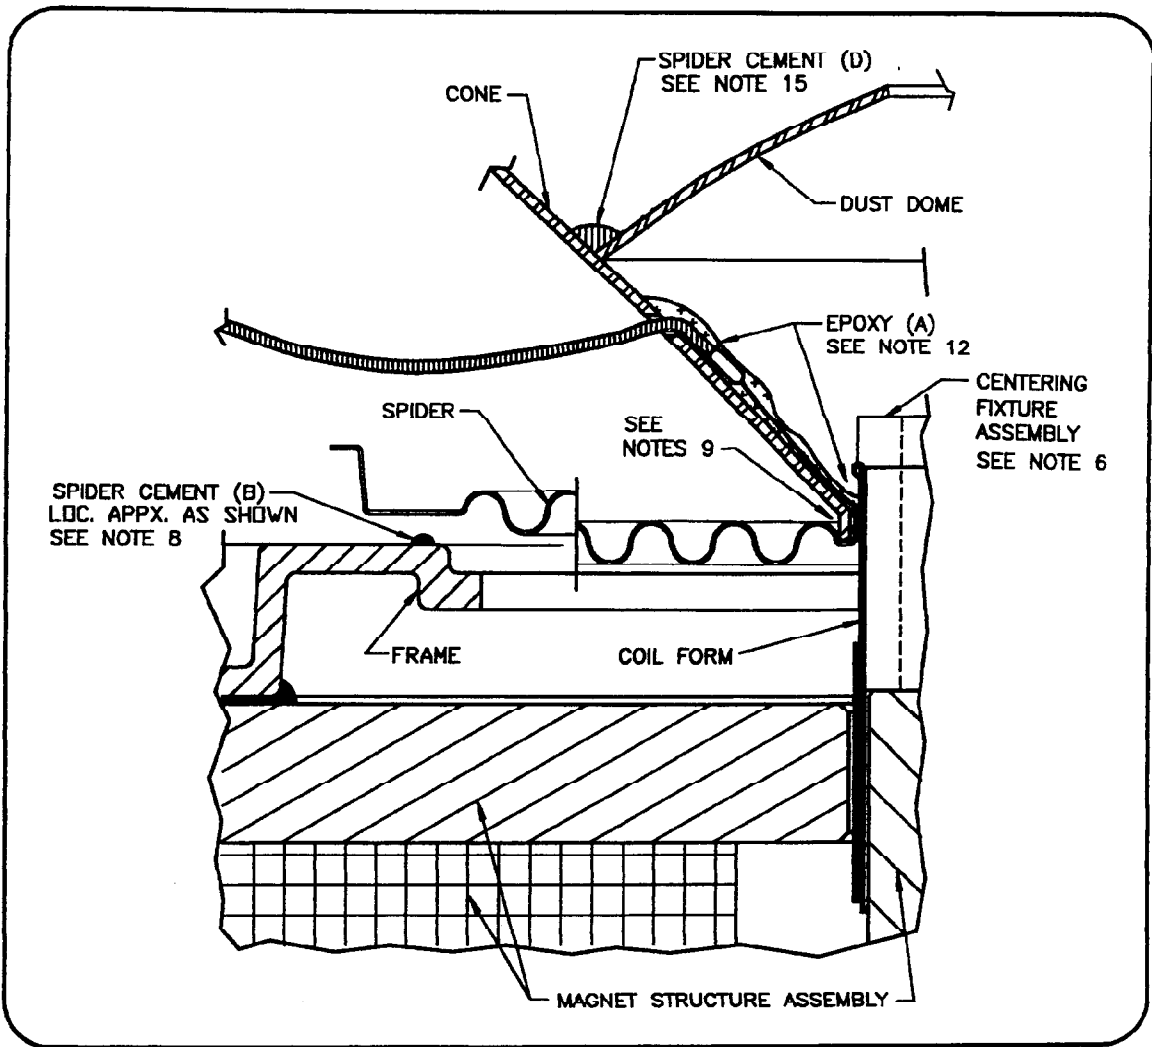
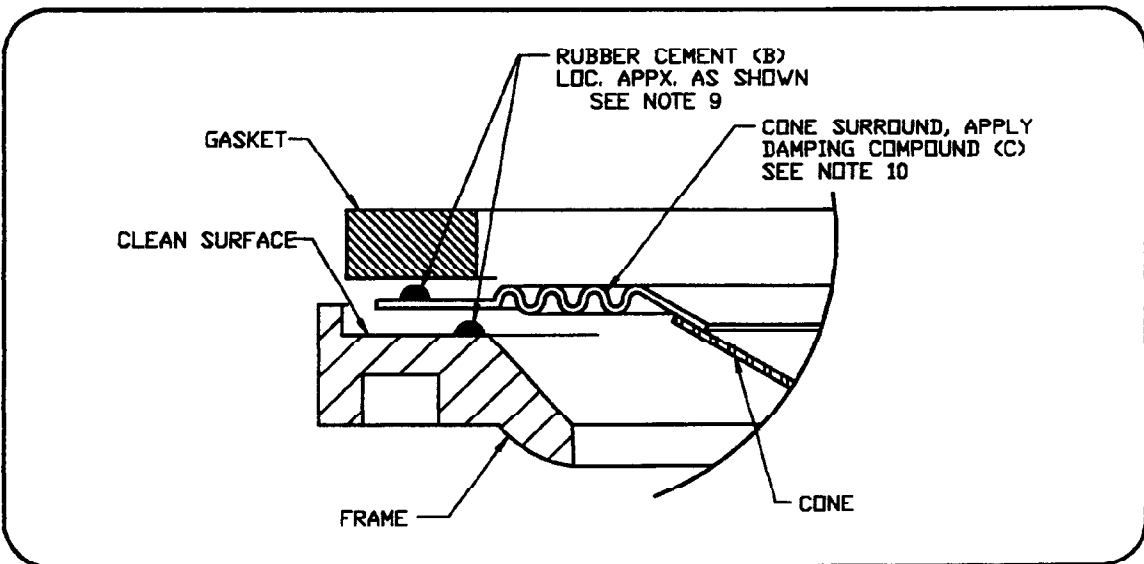

FIGURE 2
FIGURE 3
8. PLACE A GENEROUS BEAD OF SPIDER CEMENT (B) ALONG THE INNER EDGE OF THE SPEAKER FRAME (SEE FIGURE 2). PROPERLY SEAT THE SPIDER.
9. PLACE A GENEROUS BEAD OF CEMENT (B) ALONG THE INNER EDGE OF THE FRAME BASKET AS SHOWN IN FIGURE 3. POSITION THE SPEAKER CONE BY FIRST ALIGNING THE LEAD WIRE HOLES WITH THE SPEAKER TERMINALS AND THEN SLIP THE CONE OVER THE COIL/CENTERING FIXTURE ASSEMBLY AND LET THE INSIDE LIP OF THE CONE REST ON THE SPIDER AS SHOWN IN FIGURE 2. PROPERLY SEAT THE CONE SURROUND TO THE SPEAKER FRAME.
PLACE ANOTHER GENEROUS BEAD OF CEMENT (B) AROUND THE TOP SURFACE OF THE CONE SURROUND AND PROPERLY POSITION THE NEW GASKET AND SECURE IN PLACE (SEE FIGURE 3). PLACE A WEIGHT (OR SECOND SPEAKER) ON TOP OF THE GASKET FOR UNIFORM CURING OF THE CEMENT.
10. APPLY DAMPING COMPOUND (C) ONTO THE SURROUND SECTION OF THE CONE, FROM THE INSIDE DIAMETER OF THE GASKET TO APPX. 1" DOWN ON THE CONE PASSED THE I.D. EDGE OF THE SURROUND SECTION.
12. APPLY EPOXY (A) BETWEEN THE CONE AND THE COIL LEAD WIRE UP TO THE WIRE HOLE AND SEAL HOLE. APPLY EPOXY (A) COMPLETELY AROUND THE CORNER FORMED BY THE CONE, SPIDER AND COIL FORM (SEE FIGURE 2).